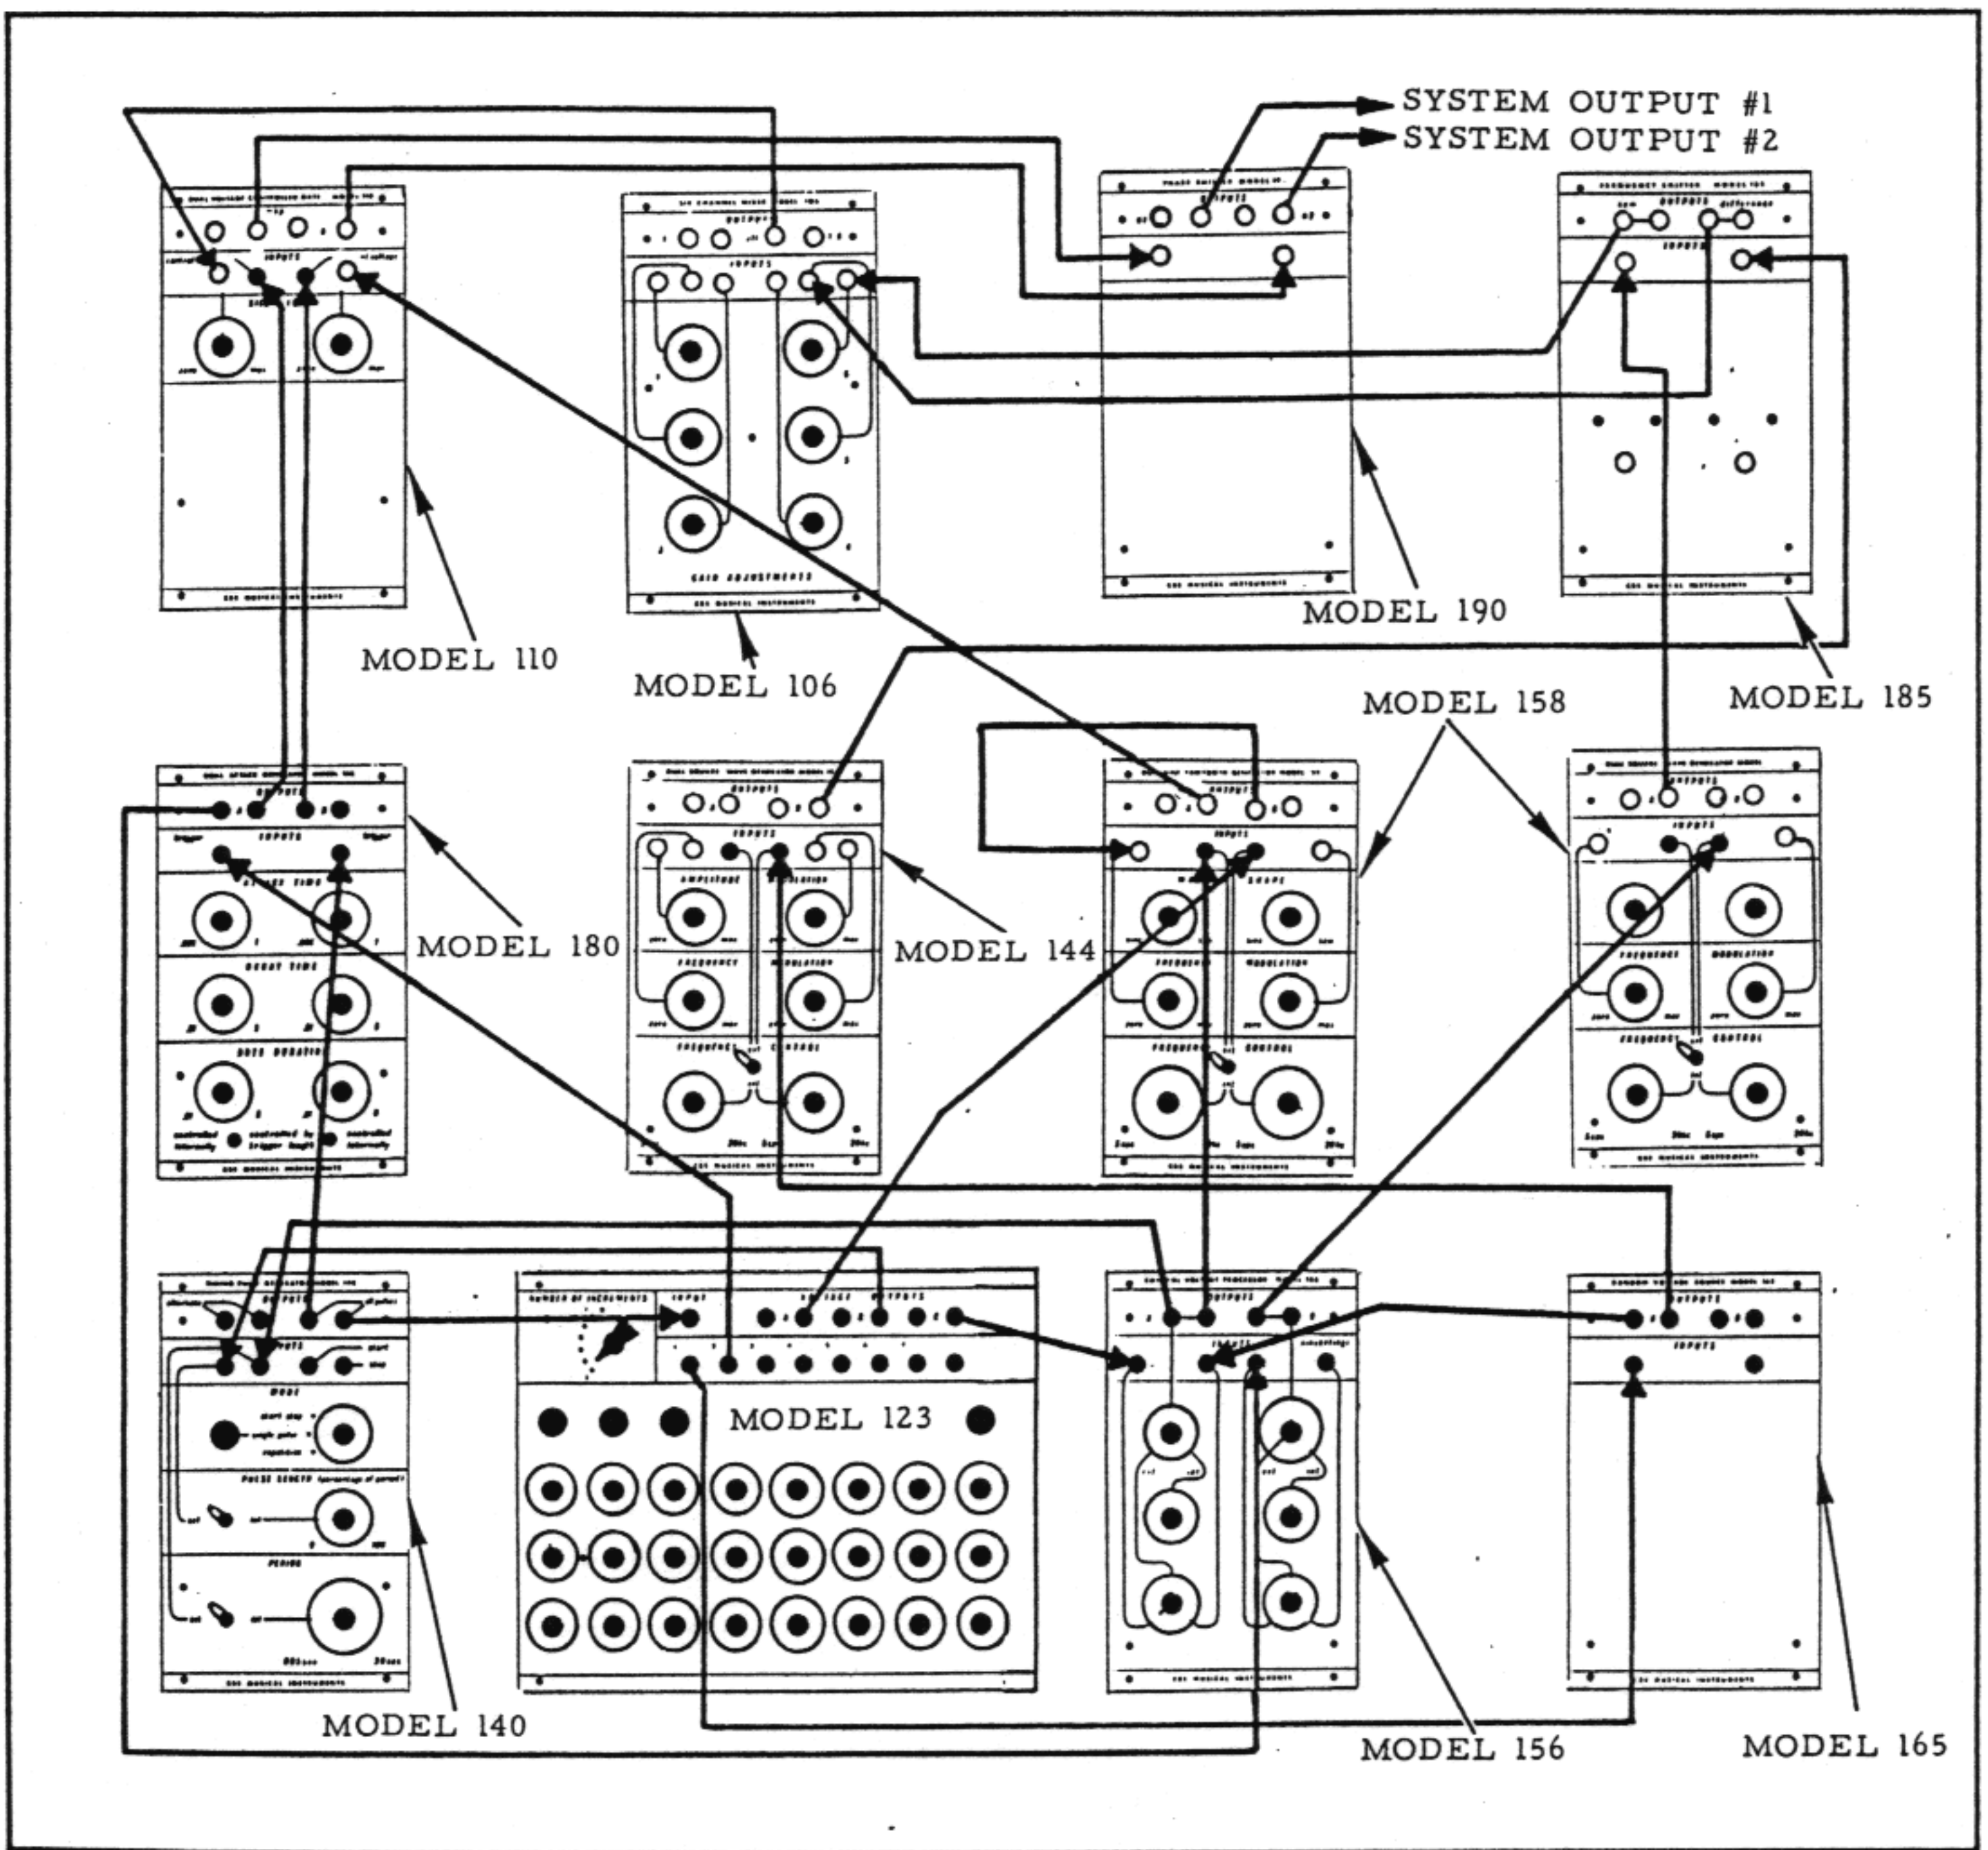

Figure 3
- The entire patching network for Example 3 is illustrated in Figure 3.